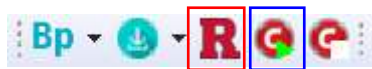

Figure 31: Enable Cola and Reset (See Toolbar)
11. Now enable the Cola (marked blue in Figure 31) and then Reset the board (marked red in Figure 31).